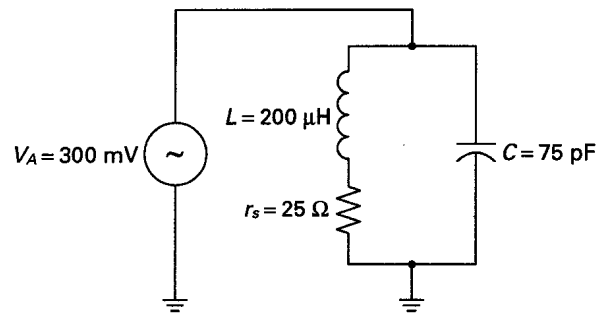

Fig. 1-19
1.13 In Fig. 1-19, calculate  $f_0$ . Also, calculate the following values at  $f_0$ :  $X_L$ ,  $X_C$ ,  $I_L$ ,  $I_C$ ,  $Q$ ,  $Z_{\text{tank}}$ , and  $I_T$ .
**1.14** In Fig. 1-19, calculate the bandwidth and edge frequencies. Recall that  $f_0 = 1.3 \text{ MHz}$  and  $Q = 65.2$ .
**1.15** In Fig. 1-19, assume that a  $100\text{ k}\Omega$  load  $R_L$  is placed in parallel with the tank. Calculate  $Q_{\text{ckt}}$  and BW.